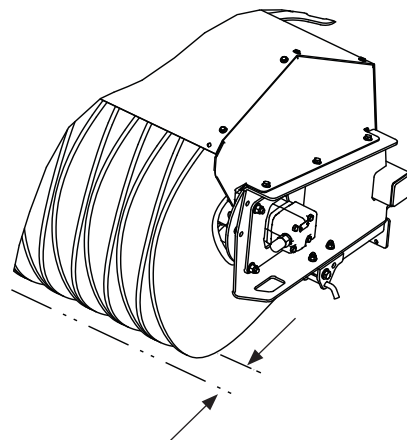

Figure 1
6. Measure pattern width left by broom. Pattern should be 2"-4" wide and even across the width of the broom [Figure 1].